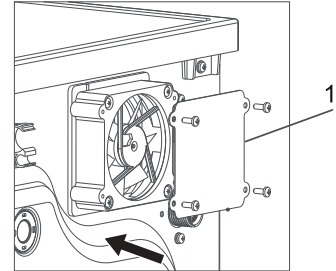

Fig.8
1. ENSURE METAL VENT COVER (1) IS INSTALLED OVER EXHAUST FAN AS SHOWN IN FIG.8